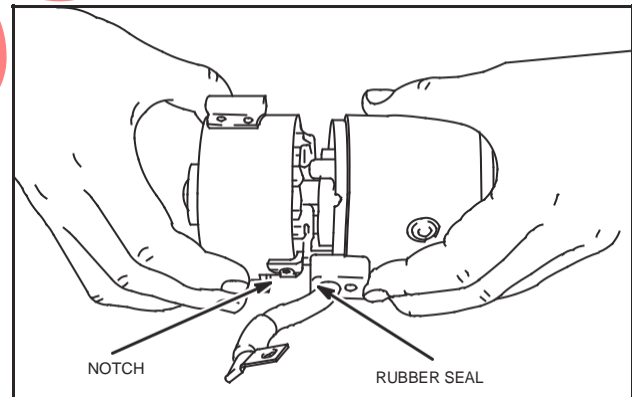

Fig. 76 – Installing End Cap
3. Align notch in end cap with rubber seal and install end cap, Fig. 76.